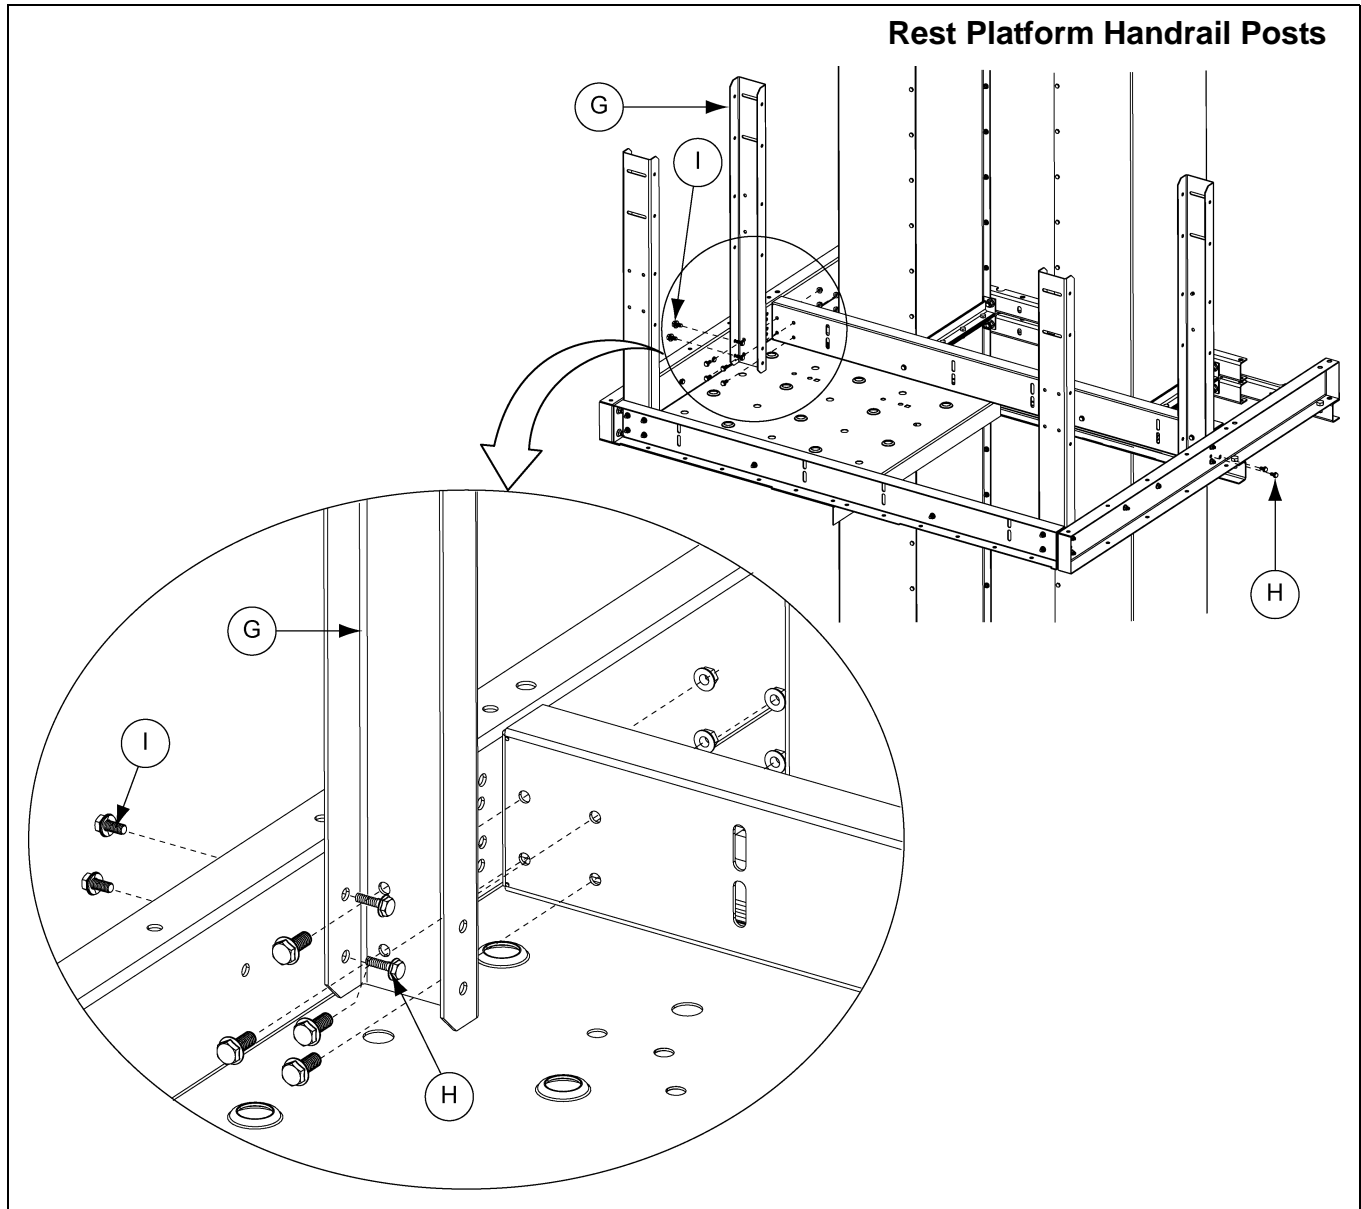

Figure 71
3. Install the handrail platform posts to the rest platform mounting channels and rest platform channels using six (6) 5/16" x 3/4" flanged hex bolts for each post, four (4) bolt to the front and two (2) on the side. (See Figure 71.)